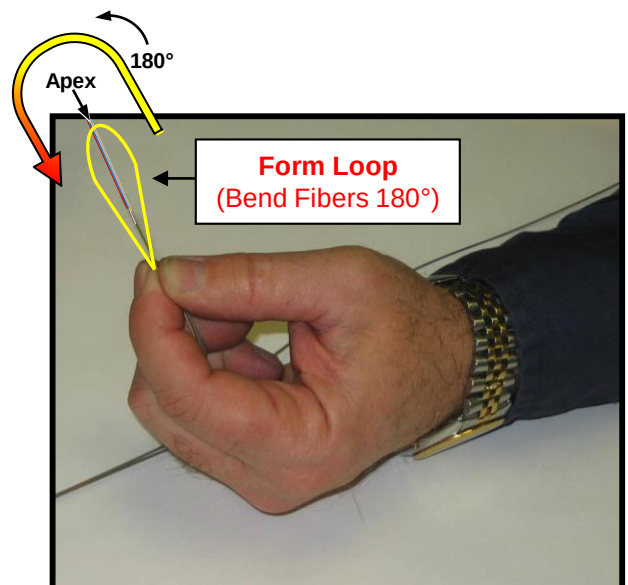

Figure 20
4. Release Fibers. Ripcord will Retain the Bend, (Repeat if necessary) See Fig. 20